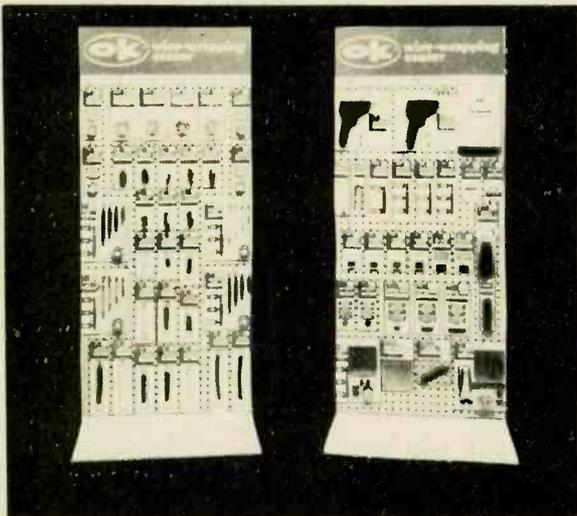

**Fig. 2. Input stage has free-running 555 timer.**
**Circuit Details.** Refer to the appropriate schematic (Figs. 2 through 6) for the following detailed circuit description. Free-running 555 timer IC20 (Fig. 2) is the basic capacitance measuring circuit, comprising the comparators, reference voltages, flip-flop, and discharge transistor described previously. The timer's discharge period is used to measure the component under test. When MODE switch S1 is in the nF position, the discharge period is determined by R1, R2, and  $C_X$ . In the  $\mu$ F position, the interval is determined by R3, R4, and  $C_X$ .